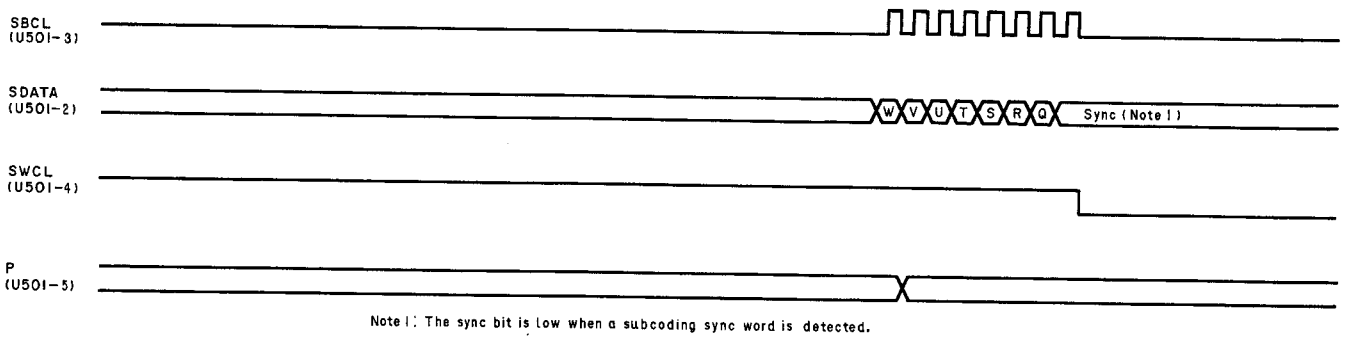

Fig. 8.1.16 Output Waveforms (SAA7011)
The frame sync signal is used to reset the $\div 588$ slave-counter which, together with a $\div 17$ symbol rate counter, supplies timing signals for clocking the Eight-to-Fourteen Modulation (EFM) decoder and the subcoding outputs. The data is read from the input shift register in symbols of 14 bits which are latched and then decoded into 8 bit data words. The subcoding part consists of only one word per frame (see Fig. 8.1.15), therefore the output (SDATA) is a burst of 8 bits of data accompanied by a 2.1609 MHz burst clock signal (SBCL) (see Fig. 8.1.16). One bit of this subcoding output data is replaced by a subcoding frame sync bit (SF) which is decoded from either of two special EFM codes. The displaced bit is known as the Pause or P bit and is latched to its own output via a debounce circuit to remove erroneous changes.
The $\div 588$ master counter, together with a second $\div 17$ symbol rate counter, is used to time the data and clock signals to the Error Corrector SAA7020 (see Fig. 8.1.16). In this way, even if the data has been corrupted, the timing signals are correct and only re-synchronized after a complete frame has been sent to the Error Corrector.